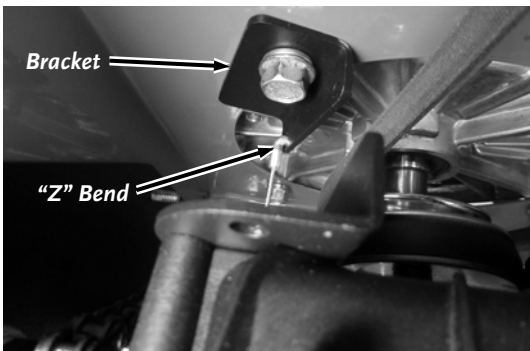

Figure 36
7. Disconnect the Z-bend end of the Drive Cable from the Bracket (Figure 36).
19. Reconnect the Z-bend end of the Drive Cable into the Bracket hole (**Figure 36**).